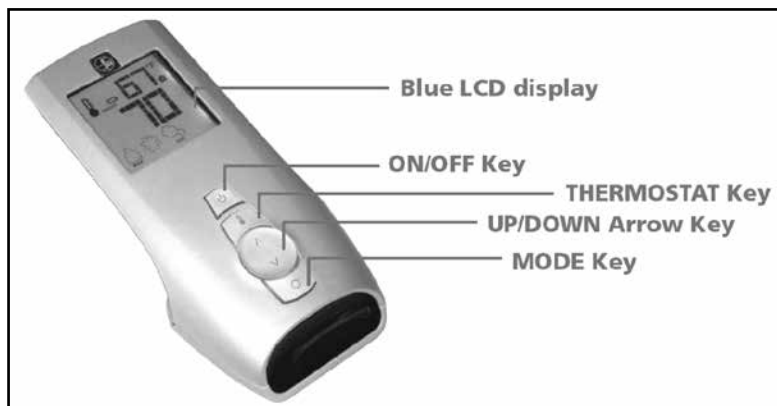

Figure 103: Proflame Transmitter.
The Transmitter is powered by three (3) AAA type batteries. A Mode Key is provided to Index between the features and a Thermostat Key is used to turn on/off or index through Thermostat functions (Figure 103 & 104).